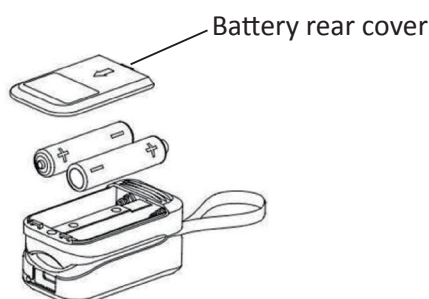

Figure 4: Installing Batteries
3. Insert two “AAA” size batteries, making sure the battery’s positive and negative poles are correctly oriented in the battery compartment as shown in Figure 4.